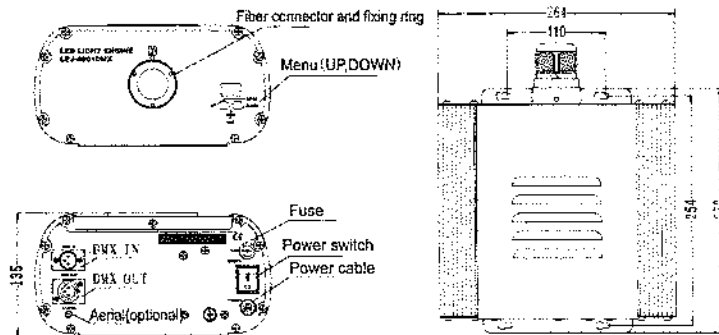

Fig.18
C. Installation dimension of light engine(see Fig.18):